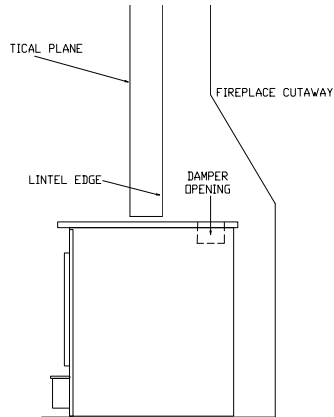

FIGURE 2 **POSITIONING**
When positioning heater, the following conditions **MUST** be met! (See Figure 2).
1. The front of damper opening must be positioned **BEHIND** rear edge of the lintel to ensure proper draft. (See Figure 2).
After unit is positioned as shown in (Figure 2), mark mounting position of trim panels as follows: